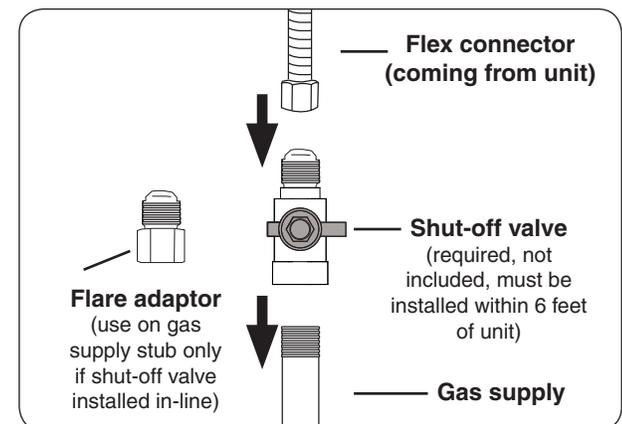

Fig. 21-3 Connecting to a gas line
- Connect the flex connector to the shut-off valve (see Fig. 21-3). Tighten securely.
- Install the supplied flare adaptor to the gas supply using a pipe joint compound resistant to all gasses (see Fig. 21-3). Tighten securely.
- Connect the flex connector to the flare adaptor (see Fig. 21-3). Tighten securely.